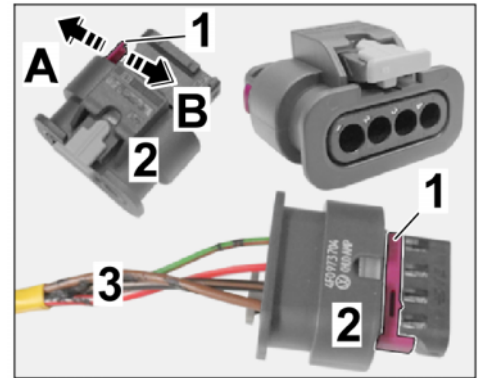

Figure 38
3.4.1 Release the socket housing (4-pin, see parts list) (\Rightarrow *Figure 38*).
3.4.3 Lock the socket housing (4-pin, see parts list) (\Rightarrow *Figure 38*).